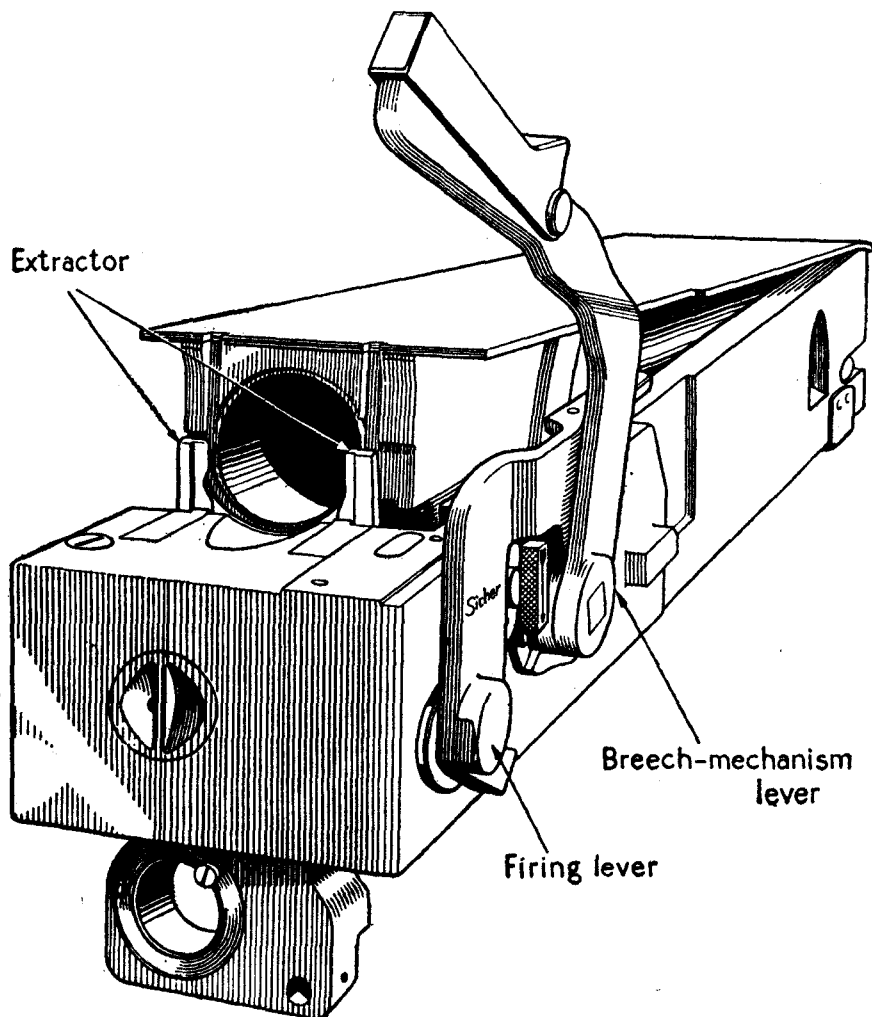

Figure 72.—Breech of 7.5-cm infantry howitzer.
(1) *Safety*.—The gun cannot be fired until the barrel is properly closed. A projection on the firing lever must enter a recess in the breech-mechanism lever when fully closed (figs. 72 and 73).